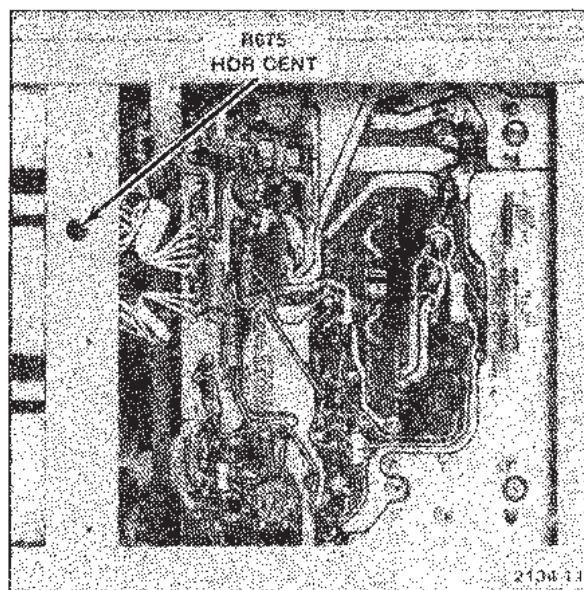

Fig. 3-5. Location of horizontal centering adjustment.
e. Adjust—Hor Cent R675 to set the start of the unmagnified sweep at the center vertical graticule line. See Fig. 3-5 for adjustment location.